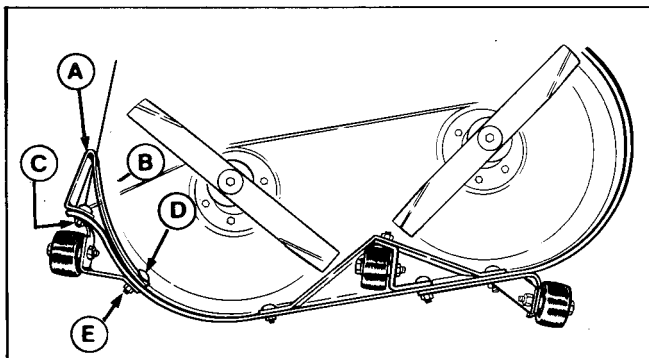

Figure 6.
13. Turn the mower deck upright and block in this position. Install the baffle (A, figure 6) as shown. For decks without rollers, install retainer nut (B) in baffle, then screw the 1/4" whizlock screw (C) into retainer nut. For decks with roller, use existing hardware to mount baffle (A). Insert 1/4" carriage bolt (D) from inside deck and install lockwasher and nut (E). Return mower deck to flat position.